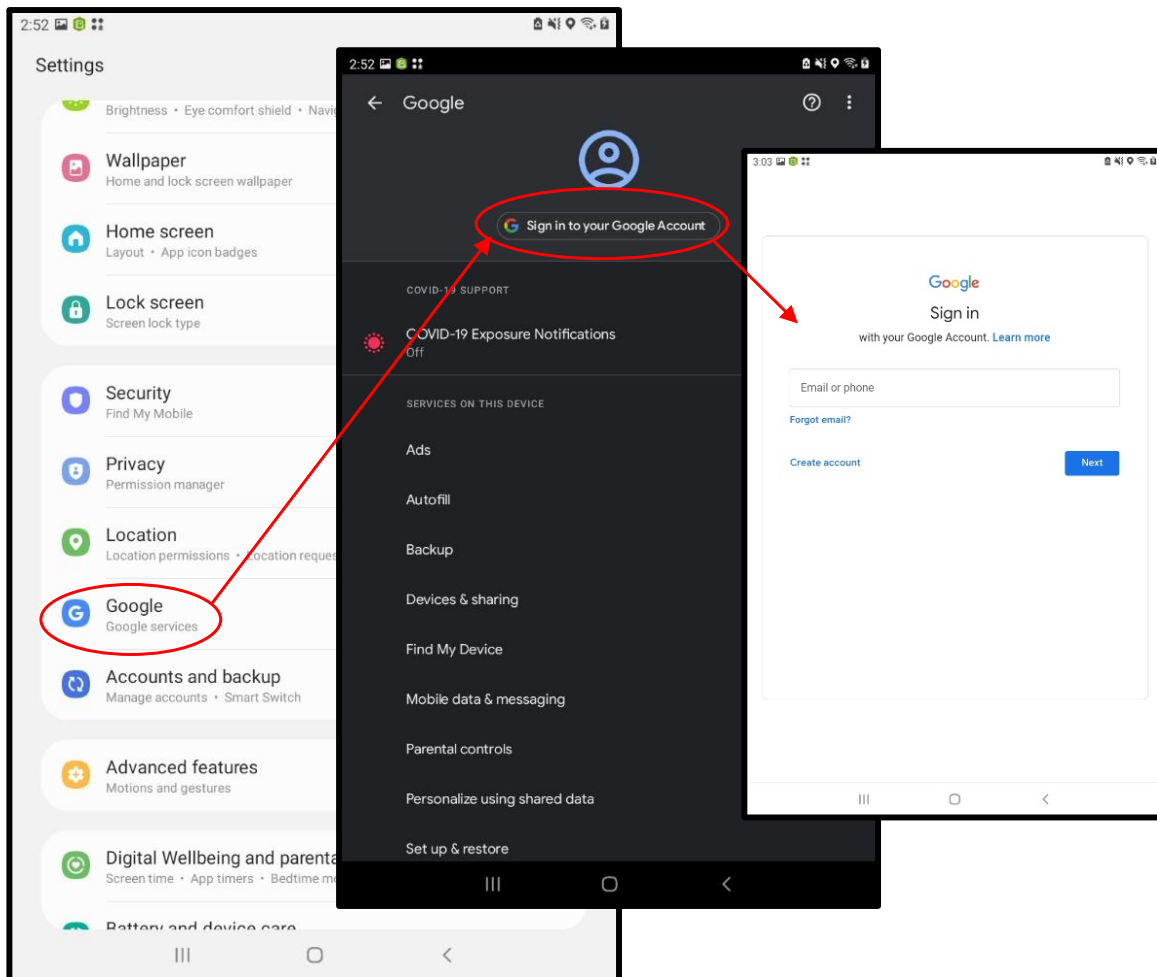

Figure 16. Images of the workflow for signing into google account on Samsung Galaxy Tab A with red circles and arrows showing the workflow.
- Once you have determined your account, navigate to your settings, open the icon for Google Services and sign into your Gmail account (Figure 16)